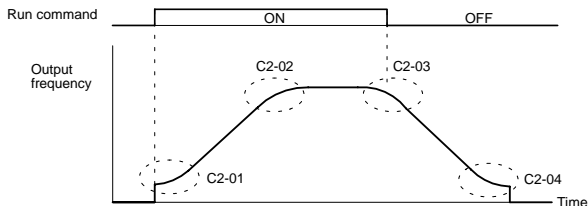

Fig 7.11 Setting S-curve Characteristics
- The relation between these constants is shown in *Figure 7.11*.